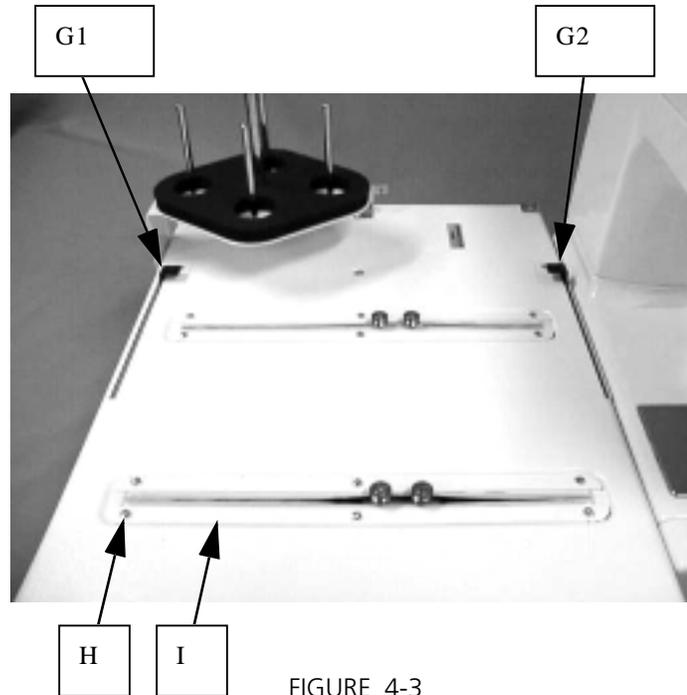

FIGURE 4-3
3. Shift the X-carriage (G1) and X-carriage(G2) to the maximum limit in the arrow direction. Fig.4-3.
4. Remove four-seat holders(I) by removing twelve bind screws 3x4(H).